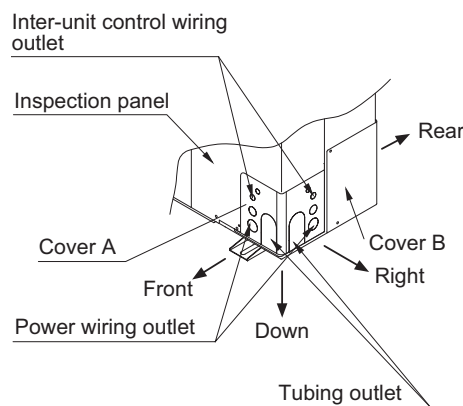

Fig. 1-18
- (1) If the routing direction is through the front, rear, or right, use a nipper or similar tool to cut out the knockout holes for the inter-unit control wiring outlet, power wiring outlet, and tubing outlet from the appropriate covers A and B.
- (2) If the routing direction is down, use a nipper or similar tool to cut out the lower flange from cover A. (Fig. 1-18)